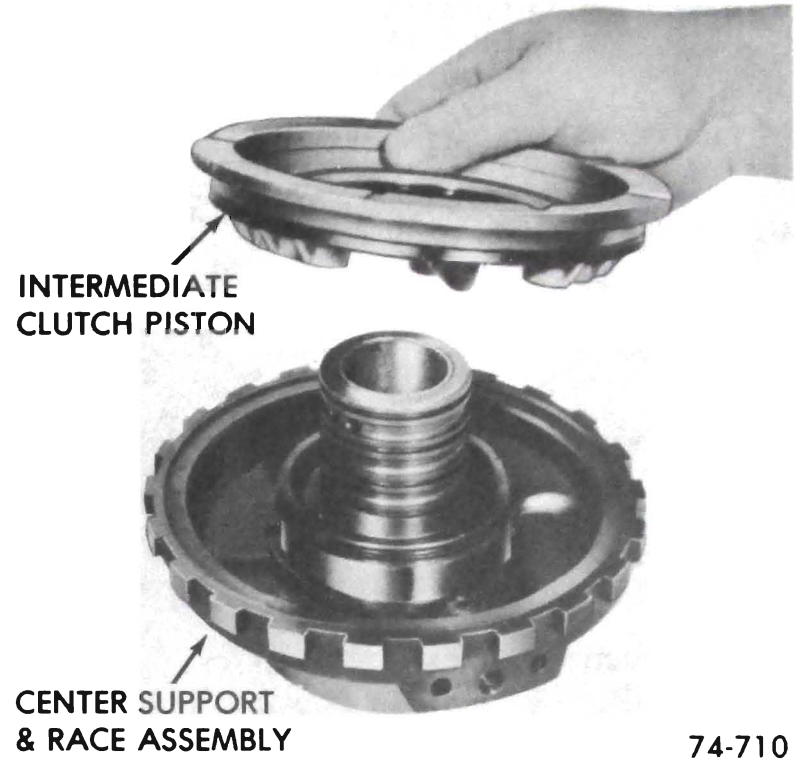

Figure 76-222
4. Remove the intermediate clutch piston. See Figure 76-222.